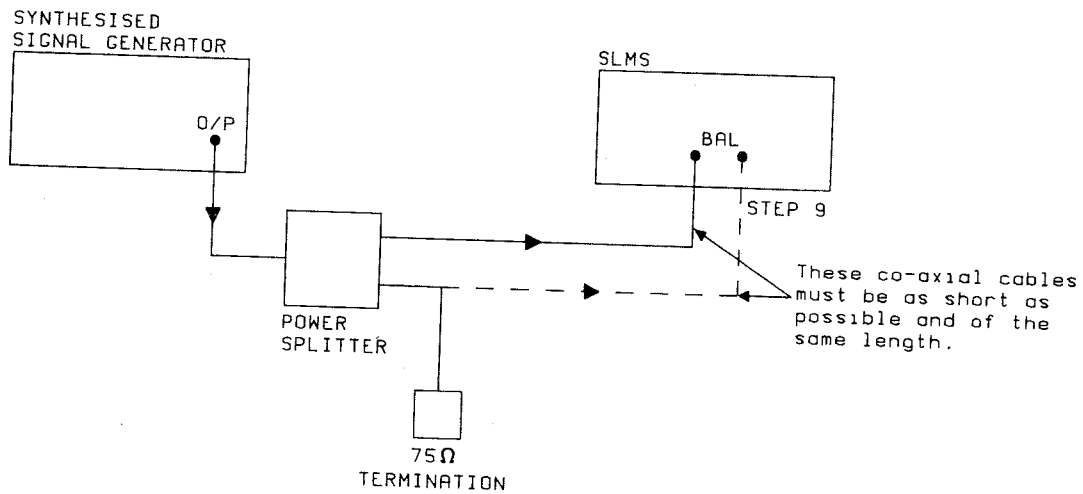

Figure 4-8 Common Mode Rejection Test Setup
1. Connect up equipment as shown in Figure 4-8.